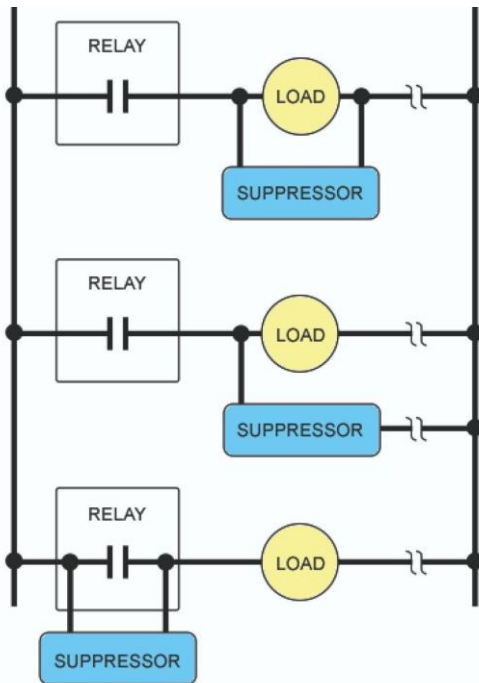

Figure 2-17. Install Suppressors Across AC Loads
- a. AC loads: Install arc suppressors across each inductive load (motors, coils, etc.) that is connected to a cam relay (see Figure 2-17). Suppressors are supplied with each relay. Install the suppressors across the load or as close to the load as possible. Attach suppressors by connecting leads across existing terminals or junction points.